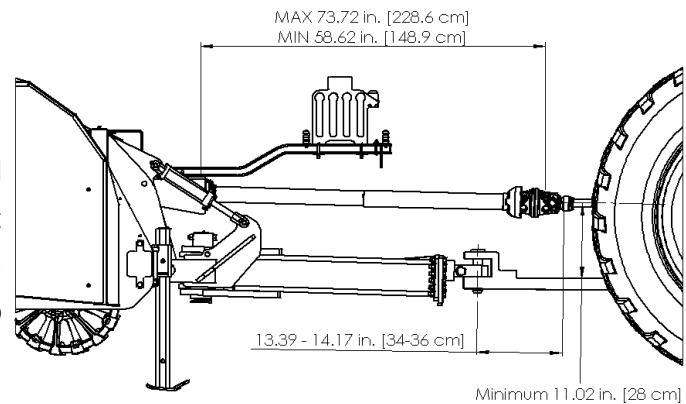

Figure 4-1: Drawbar Range
**4.1.1 Adjusting the Drawbar:** It is recommended that the tractor drawbar be set to the shortest position and be within the given range (in accordance with ANSI/ASABE AD6489-3) to maintain the integrity of the drive system. Dimensions are shown in Figure 4-1.